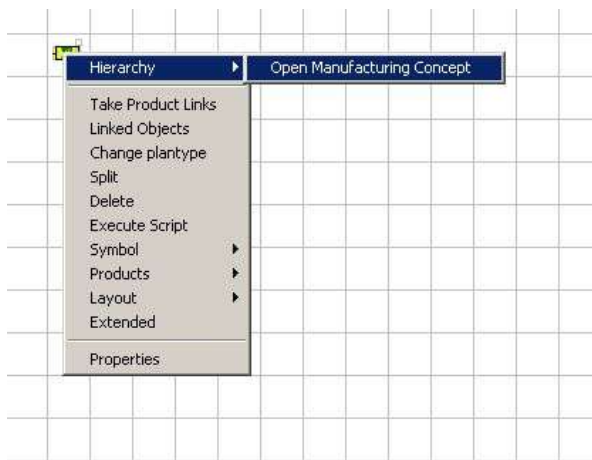

Figure 146: Generating a Manufacturing Concept for a Resource
- 4) Newly created Manufacturing Concepts can be opened using the **Open Manufacturing Concept** function from the contextual menu. *Please refer to the Figure 146.*